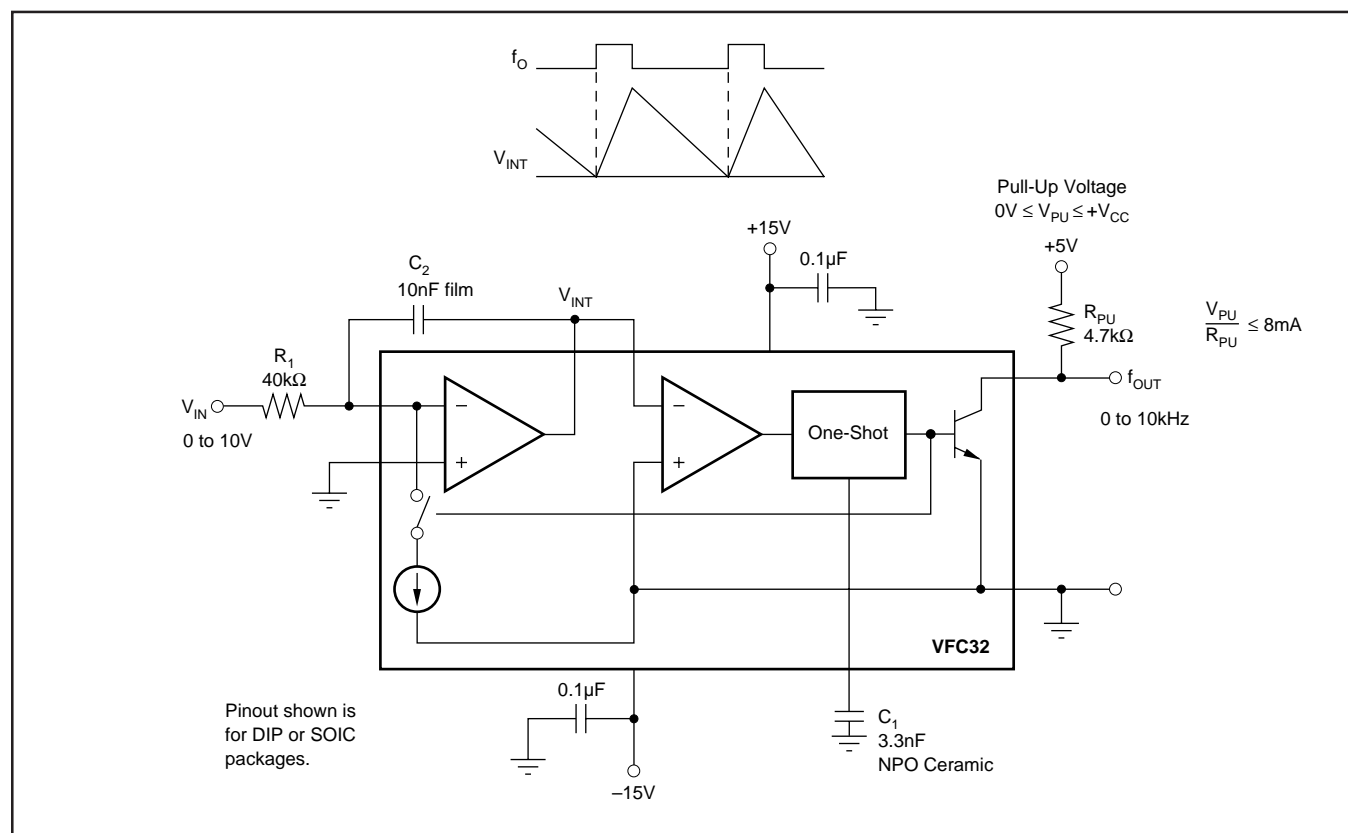
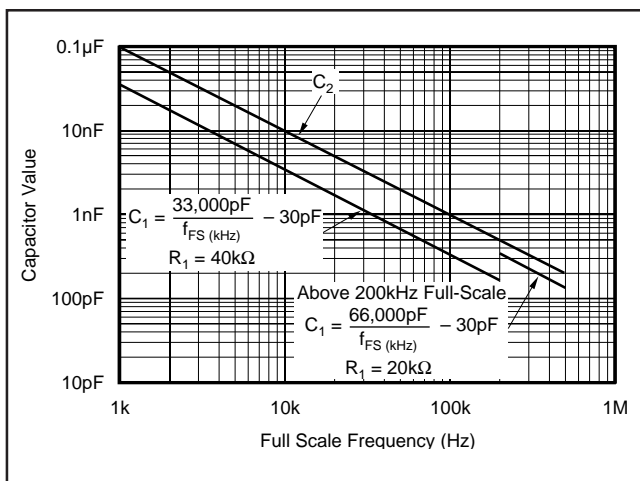
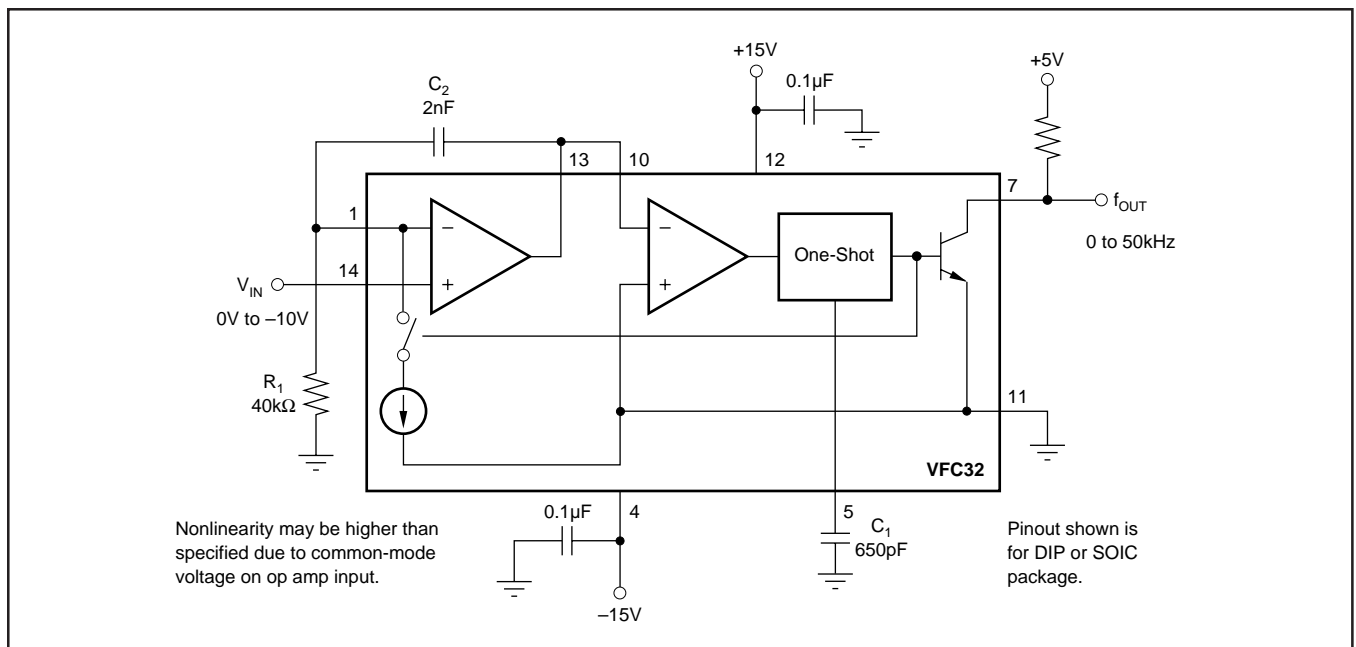

FIGURE 1. Voltage-to-Frequency Converter Circuit.
FIGURE 2. Capacitor Value Selection.
FIGURE 5. V/F Converter—Negative Input Voltage.
NOTES: (1) A 25% duty cycle (0.25mA input current) is recommended for best linearity. (2) Adjustable to zero. See Offset and Gain Adjustment section. (3) Linearity error is specified at any operating frequency from the straight line intersecting 90% of full scale frequency and 0.1% of full scale frequency. See Discussion of Specifications section. Above 200kHz, it is recommended all grades be operated below +85 $^\circ\text{C}$. (4) $\pm 0.015\%$ of FSR for negative inputs shown in Figure 5. Positive inputs are shown in Figure 1. (5) FSR = Full Scale Range (corresponds to full scale frequency and full scale input voltage). (6) Exclusive of external components' drift. (7) Positive drift is defined to be increasing frequency with increasing temperature. (8) For operations above 200kHz up to 500kHz, see Discussion of Specifications and Installation and Operation sections. (9) One pulse of new frequency plus 1 μs .
Figure 1 shows the basic connection diagram for frequency-to-voltage conversion. R_1 sets the input voltage range. For a 10V full-scale input, a 40k Ω input resistor is recommended. Other input voltage ranges can be achieved by changing the value of R_1 .
The full-scale output frequency is determined by C_1 . Values shown in Figure 1 are for a full-scale output frequency of 10kHz. Values for other full-scale frequencies can be read from Figure 2. Any variation in C_1 —tolerance, temperature drift, aging—directly affect the output frequency. Ceramic NPO or silver-mica types are a good choice.
For full-scale frequencies above 200kHz, use larger capacitor values as indicated in Figure 2, with $R_1 = 20\text{k}\Omega$.
The value of the integrating capacitor, C_2 , does not directly influence the output frequency, but its value must be chosen within certain bounds. Values chosen from Figure 2 produce
approximately 2.5Vp-p integrator voltage waveform. If C_2 's value is made too low, the integrator output voltage can exceed its linear output swing, resulting in a nonlinear response. Using C_2 values larger than shown in Figure 2 is acceptable.
The value of C_1 is chosen from Figure 2 according to the full-scale input frequency. C_2 smooths the output voltage waveform. Larger values of C_2 reduce the ripple in the output voltage. Smaller values of C_2 allow the output voltage to settle faster in response to a change in input frequency. Resistor R_1 can be trimmed to achieve the desired output voltage at the full-scale input frequency.